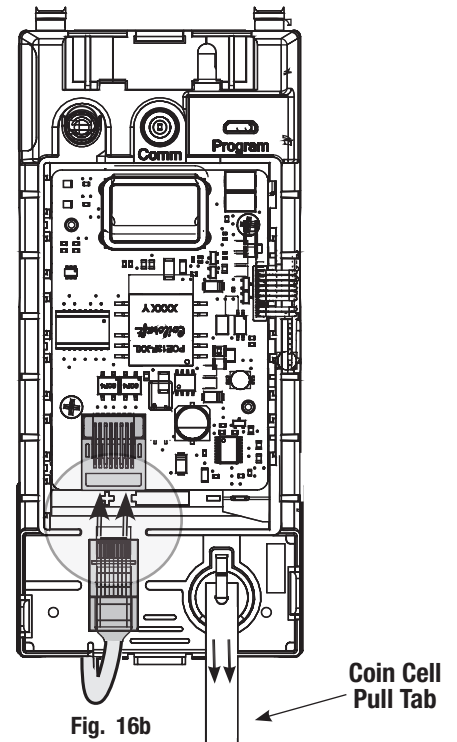

Fig. 16b
3. Connect RJ45 Male Connector to female RJ45 port on controller board (Fig. 16b).
4. Remove **pull tab** from its position beneath the coin cell by pulling on tab in direction of arrows printed on tab (Fig. 16b).